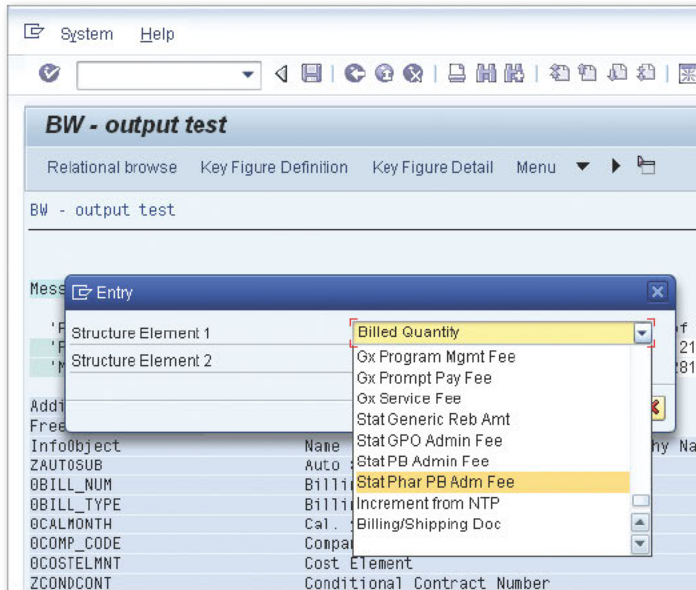

Figure 4 Select Desired Key Figure to View Its Detailed Metadata
4. Select the desired key figure to view its detailed metadata (Figure 4).